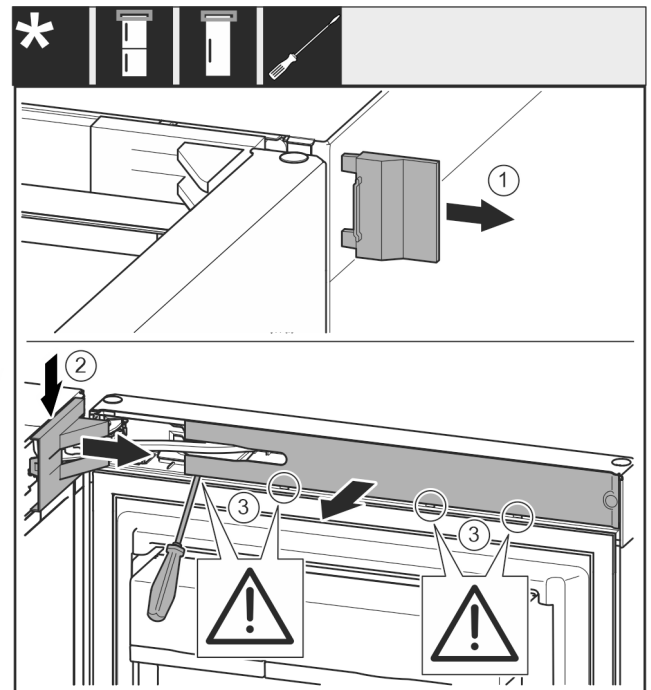

Fig. 7
- Remove the cover Fig. 7 (1).
- Snap out the swap bearing block cover Fig. 7 (2) and loosen it.
- Take off the swap bearing block cover Fig. 7 (2).
- Use a slotted screwdriver to snap out the faceplate Fig. 7 (3) and swivel it to the side.